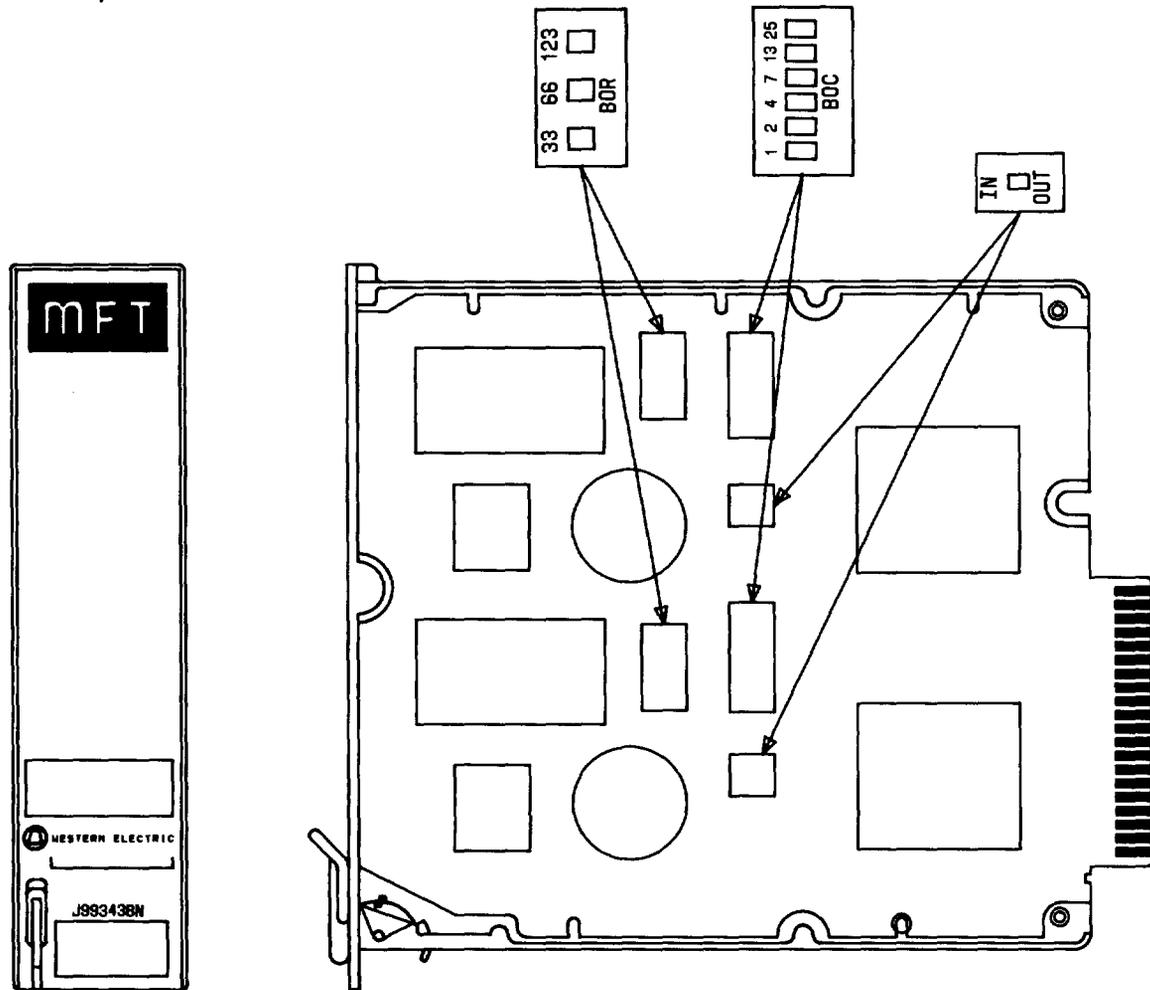
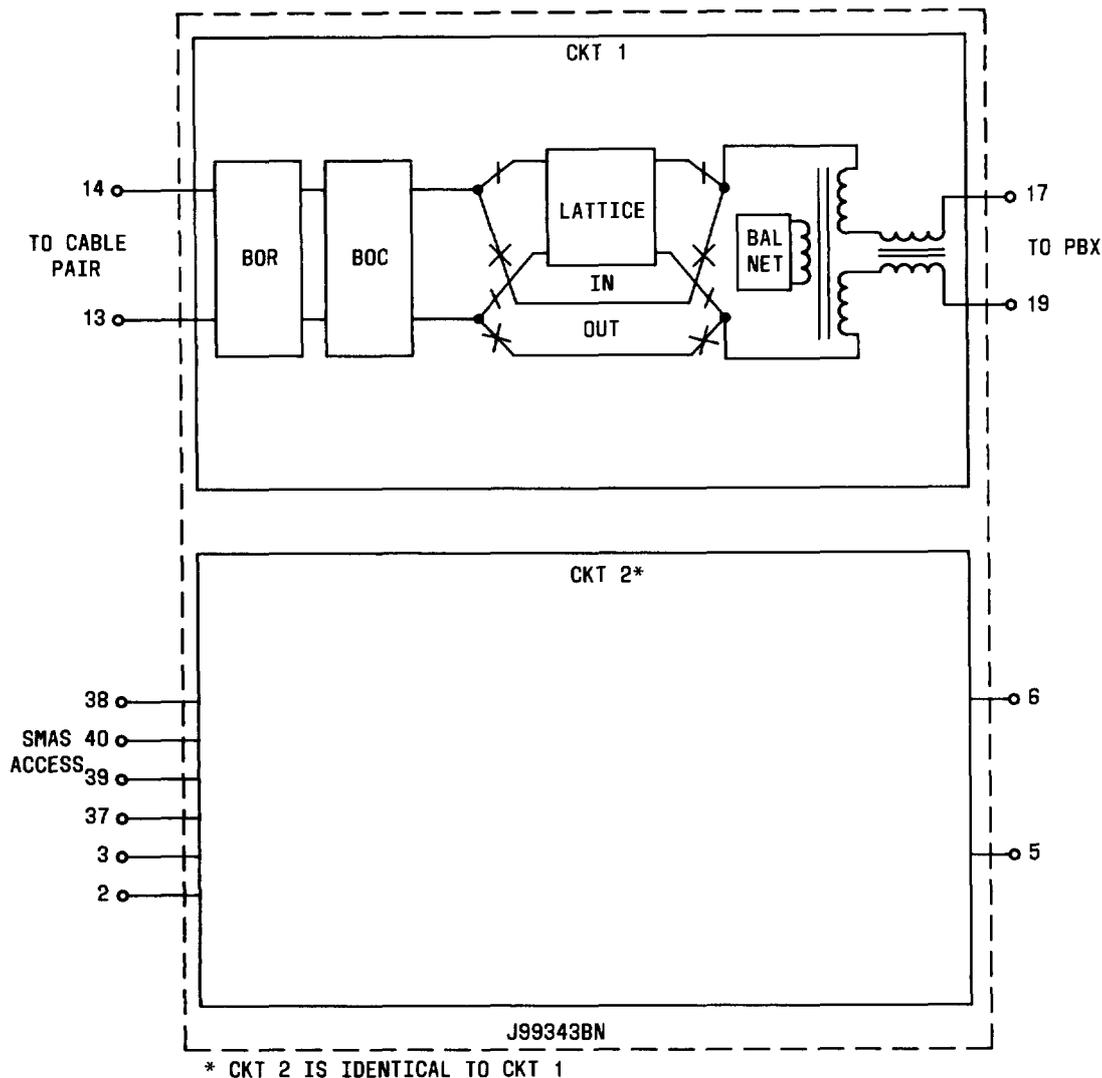

Fig. 5—Component Layout, J99343BN
Fig. 6—Block Diagram, J99343BN
nent layout for the J99343BN is shown in Fig. 5. Figure 6 shows a block diagram of the J99343BN.
**4.05** The J99343BN contains two identical impedance compensation circuits as shown in Fig. 6. The equipment side of the circuit interfaces the 600-ohm terminating equipment.